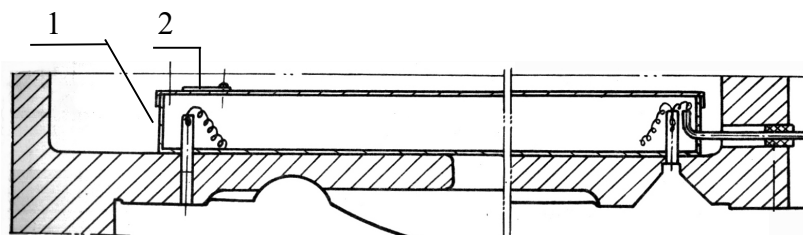
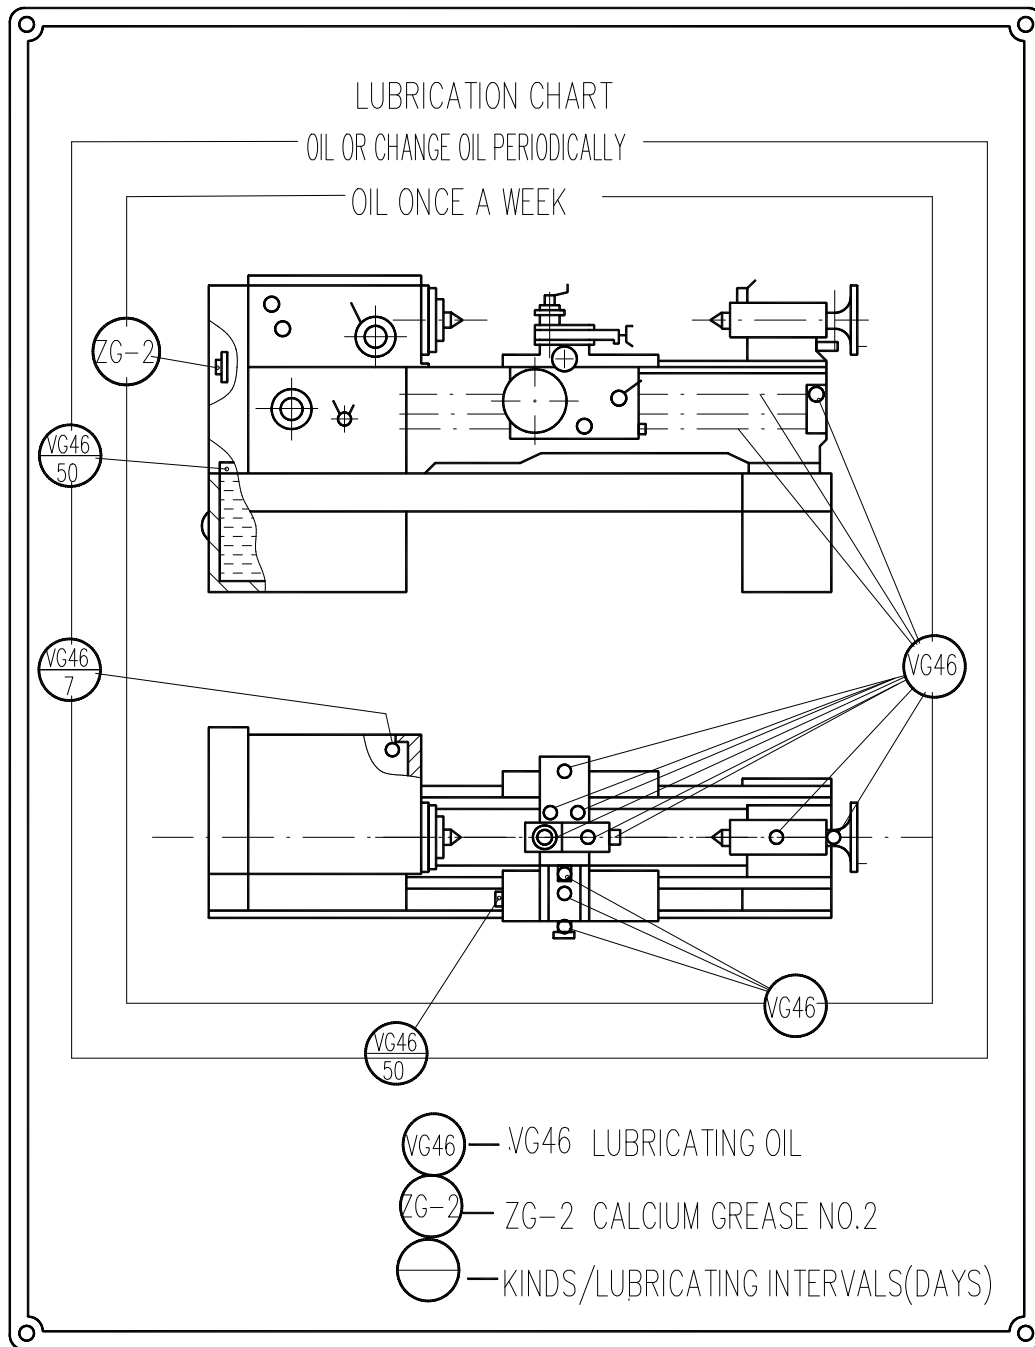

Fig. 36 Lubricating oil box for carriage
Fig. 37 Label of lubrication system chart
- An oil tank is under the apron; oil lever in the tank should be always kept up to the mark of oil leveler. The apron is provided with oil storage. All bearings and worm in the apron are oiled by knitting wool. Apart of gears is immersed in oil. The other parts in the apron are lubricated by oil mist producing during rotating. If oil lever in the apron is below the oil mark of oil leveler, fill oil into the apron through the oil add hole (lubricating point (4) in Fig. 37).
- Lubricating oil for the bed ways and the carriage is supplied by oil from oil box (lubricating point (7) in Fig. 37) mounted inside carriage. Oil once a shift. Lubricating steps are as follows:
- ① When oiling, turn the handwheel for carriage to the front or the rear end of carriage. If move the slide towards the inside to the most front end, you should remove the protecting cover of the slide.
- ② There is a oil box (1) the carriage. Open the cover (2), fill oil in the box until it is full of oil, the close the cover (2) (see Fig. 36).
- ③ If the slide is at the most front, you should mount the protecting cover of the slide.
- The tool post and the small leadscrew (lubricating points 10,14,15, in Fig. 37) are lubricated by an oil gun. The slide and the cross leadscrew (lubricating points 11,12,13 in Fig. 37) are lubricated by an oil gun, too.